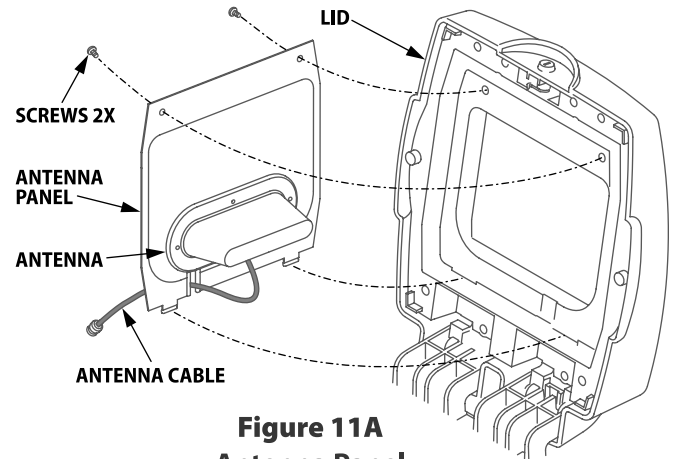

Figure 11A
1. Insert metal tabs at the base of the antenna panel into the slots in the controller lid. Make sure that the antenna cable is properly routed through the notch in the lower-right corner of the antenna panel. Secure the antenna panel to the lid using two Philips head screws (see Fig. 11A).